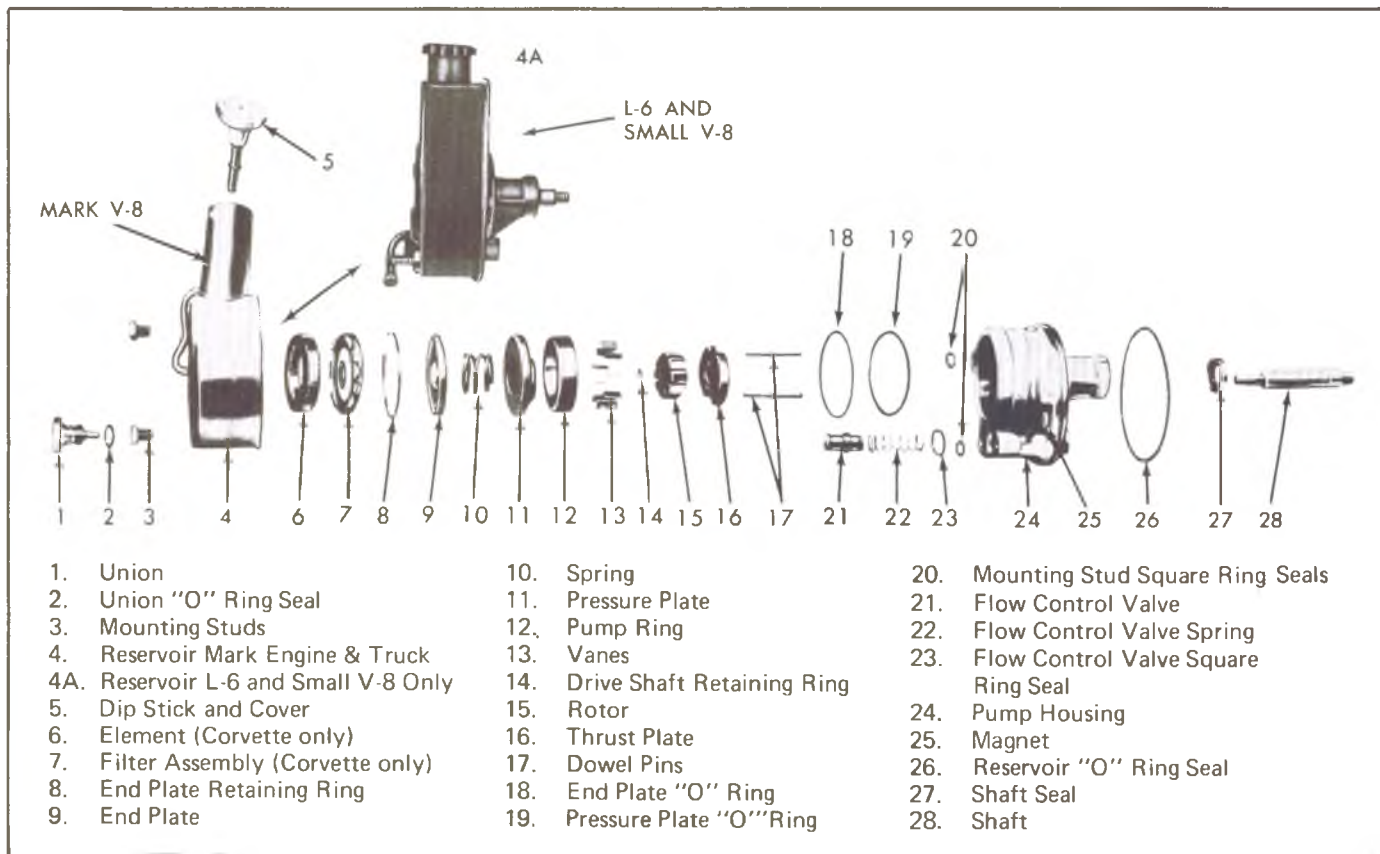
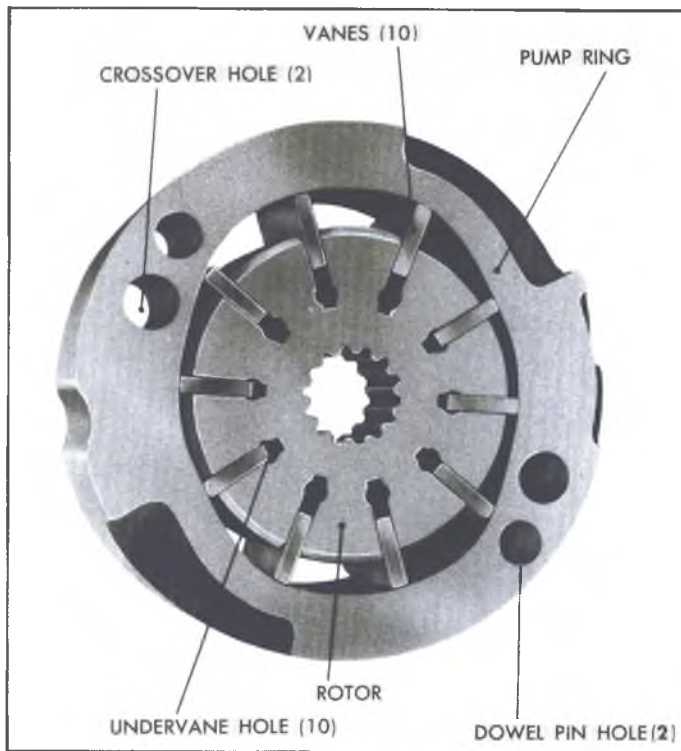

Fig. 22—Power Steering Pump—Explode
Fig. 23—Pump Components
The housing and internal parts of the pump are inside the reservoir so that the pump parts operate submerged in oil. The reservoir is sealed against the pump housing, leaving the housing face and the shaft hub exposed. The reservoir has a filler neck fitted with a cap. A shaft bushing and seal are pressed into the housing from the front. The drive shaft is inserted through this seal and bushing. A large hole in the rear of the housing contains the functional parts; namely ring, rotor, vanes and plates. A smaller hole contains the control valve assembly and spring (Fig. 22).
The thrust plate (Fig. 22) is located on the inner face of the housing by two dowel pins. This plate has four central blind cavities for undervane oil pressure. The two outer blind cavities direct discharge oil through the two cross-over holes in the pump ring (Fig. 23), through the pressure plate, and into cavity 1 (Figs. 25, 26 and 27). The two outside indentations in the thrust plate are for intake of the oil from the suction part of the pump.
The pump ring (Fig. 23) is a plate having the mating surfaces ground flat and parallel. The center hole is a two lobed cam in which the rotor and vanes operate. The ring is placed next to the thrust plate, and located with the same dowel pins.
All power steering pumps will incorporate a small disc shaped magnet attached to the pump housing (Fig. 22). The magnet will serve to collect any ferric particles which may be suspended in the oil.
The drive shaft is fitted with a pulley and is belt driven from the crankshaft. The rotor is loosely splined to the drive shaft and secured with a retaining ring. It is located centrally within the ring and between the thrust and pressure plates. The ten vanes are mounted in radial slots in the rotor (Fig. 23).
the inner cam surface of the pump ring, moving outward and inward twice during each revolution. This results in a complete pumping cycle every 180 degrees of rotation (Fig. 23). Oil is moved in the spaces between the vanes. As the vane tips move outward, oil is sucked into the intervane spaces through four suction ports in the pressure and thrust plates. The pressure of the oil is raised, and the oil is discharged from the pump ring, as the vane tips move inward. High pressure oil discharges into cavity 1 (Figs. 25, 26 and 27), through two open ports in the pressure plate, and through two blind ports in the thrust plate, which are connected to cavity 1 by the cross-over holes in the ring. A portion of this oil is circulated through the central port system in the pressure plate, forcing the vanes to follow the cam surface of the ring. The ring-rotor leakage oil (12) is used for bushing lubrication and then bled to the reservoir.